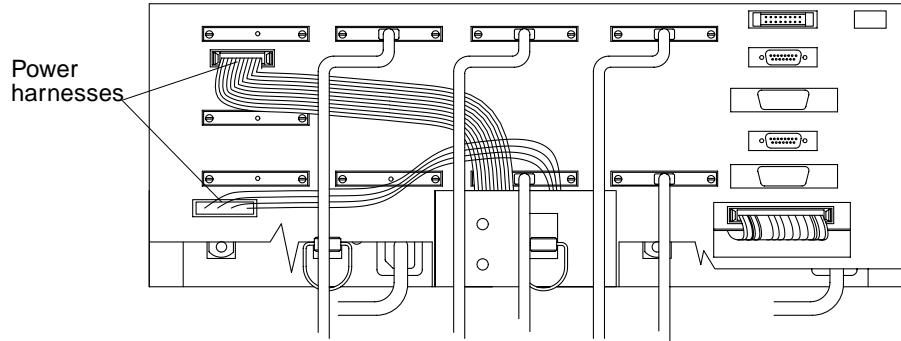

FIGURE 7-4 The Power Harnesses on the Back Panel of a SCSI Controller Module
2. Disconnect both power harnesses from the back of the controller module by unlocking and opening the latches on each side of the connectors. FIGURE 7-4 shows the battery and power harnesses on the rear of a SCSI controller module.